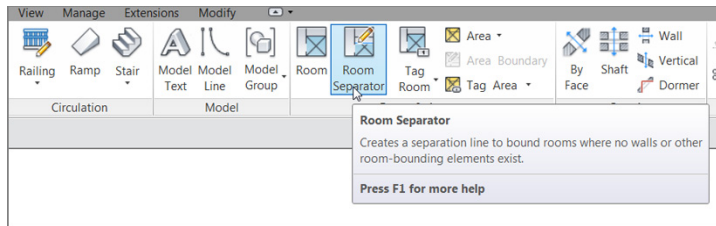

FIGURE 15.22: Click the Room Separator button on the Room & Area panel of the Architecture tab.
4. On the Room & Area panel of the Architecture tab, choose Room > Room Separator, as shown in Figure 15.22.